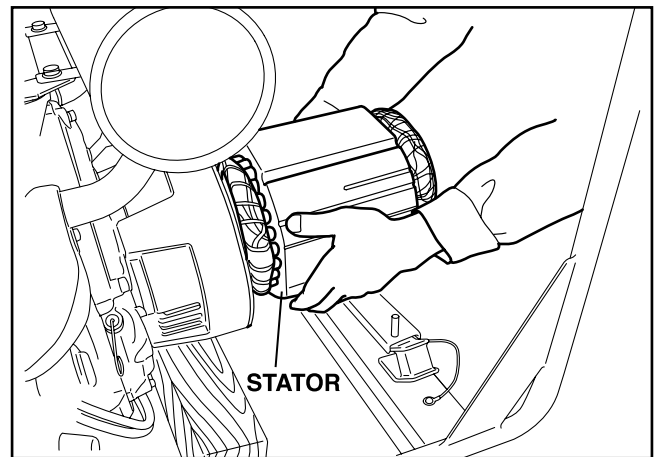

Fig. 9-3
(7) Remove the stator. (See Fig. 9-3)